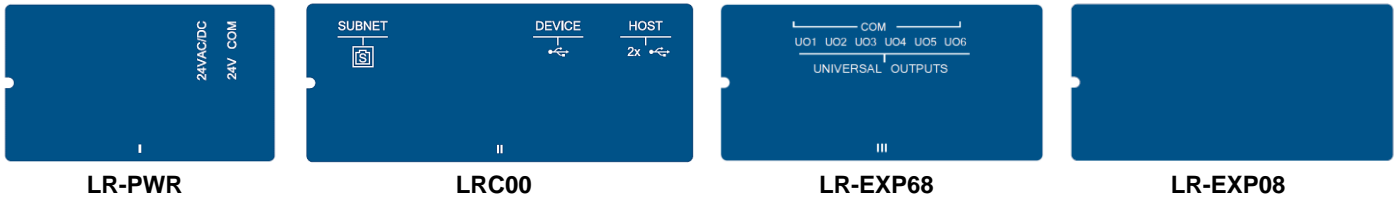
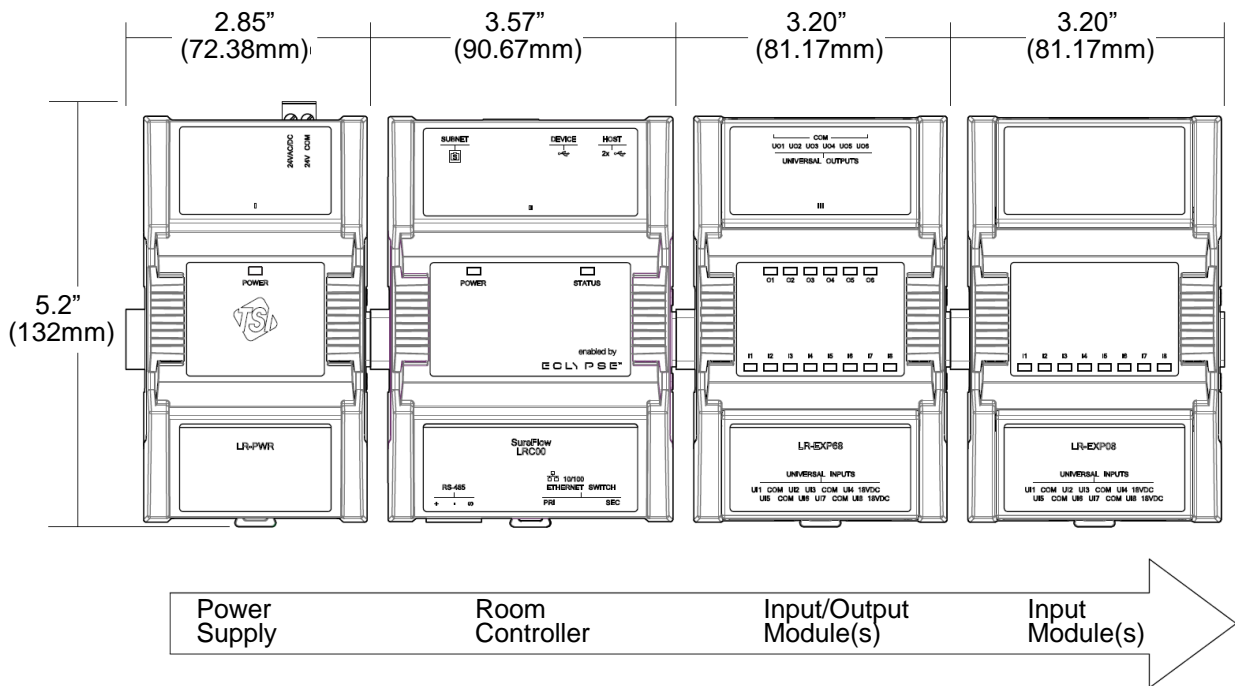

Figure 3: Module Top Panel Labels denoting assembly order
Figure 4: Assembly order
3. Set the pieces in the correct mounting order (Figure 3) and position (Figure 4).